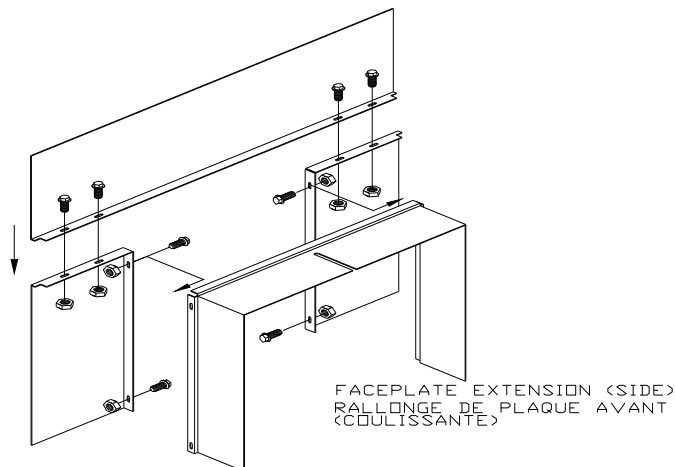

Figure 2.9a
- Place the faceplate face down on a flat, nonabrasive surface (see Figure 2.9a) so that the sides are a bit towards the middle.